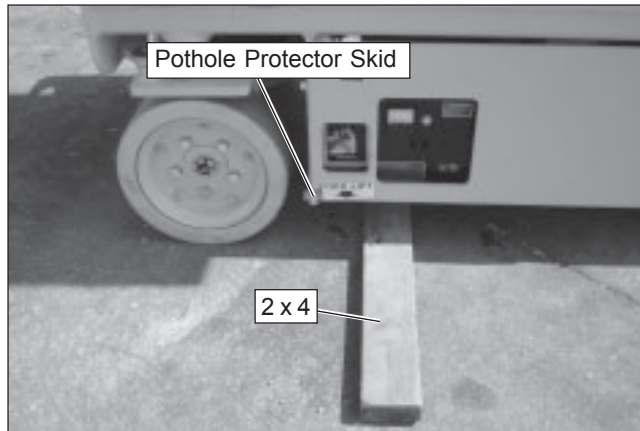

Figure 8.13 – Pothole Protector Skid
- Place a 3.8 cm (1 1/2") thick board, such as a 2 x 4, under the skid on the left side (refer to Figure 8.13).